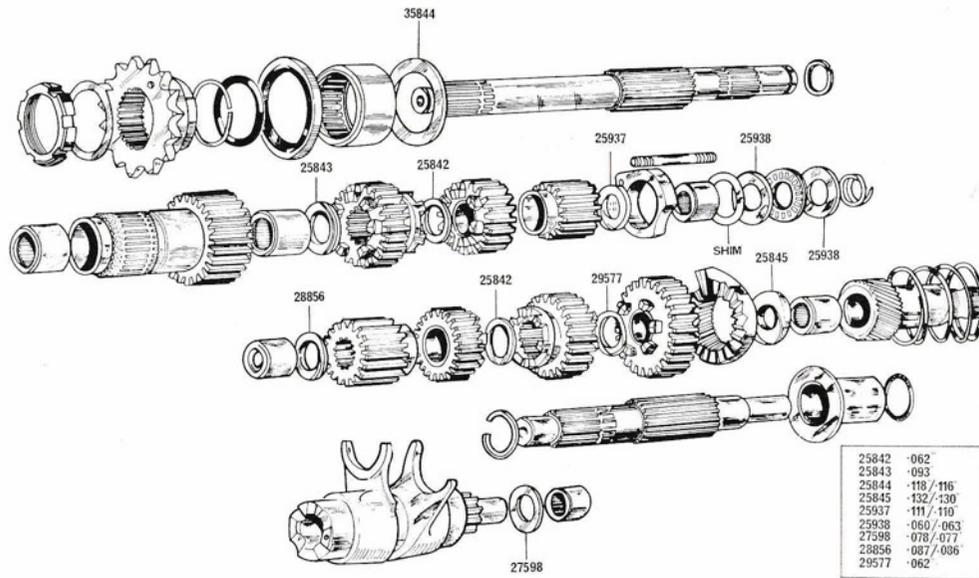

Fig. 36 Gear cluster indicating position and thickness of all thrust washers.
It is assumed that all components have been cleaned, inspected and renewed as necessary following Section D7. The order of assembly of the thrust washers is shown in Fig. 36.
- 2 Reassemble the mainshaft gear cluster – slide thrust washer 25842 (see Fig. 36) onto the shaft followed by the second gear pinion, square section circlip (which must bed completely into the groove) low gear and thrust washers 25937 (111 in., 110 in., i.e. 2.81 mm–2.80 mm).
It is assumed that all components have been cleaned and inspected as in Section D7. See Fig. 36 for the position of the washers.